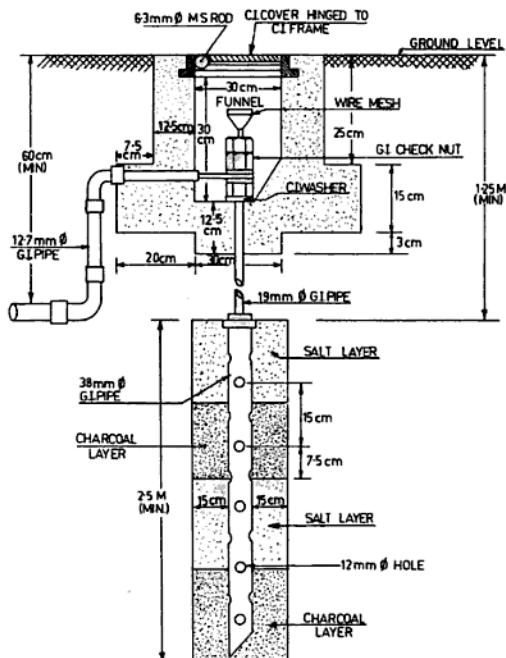

Fig. 10.11 Pipe earthing (as per IS: 3043-1966)
**Pipe Earthing** In this method a galvanised iron (G.I.) pipe of 38 mm ( $1\frac{1}{2}$ " diameter, 2 m ( $6\frac{1}{2}$ ' length (for ordinary earthing) having 12 mm ( $\frac{1}{2}$ " diameter holes on its surface is buried vertically in the wet earth to work as an earth electrode. If the soil is dry, then the length of the pipe varies to 2.75 m (9'). The lower end of the pipe is made tapered (Fig. 10.11) to make driving easy.